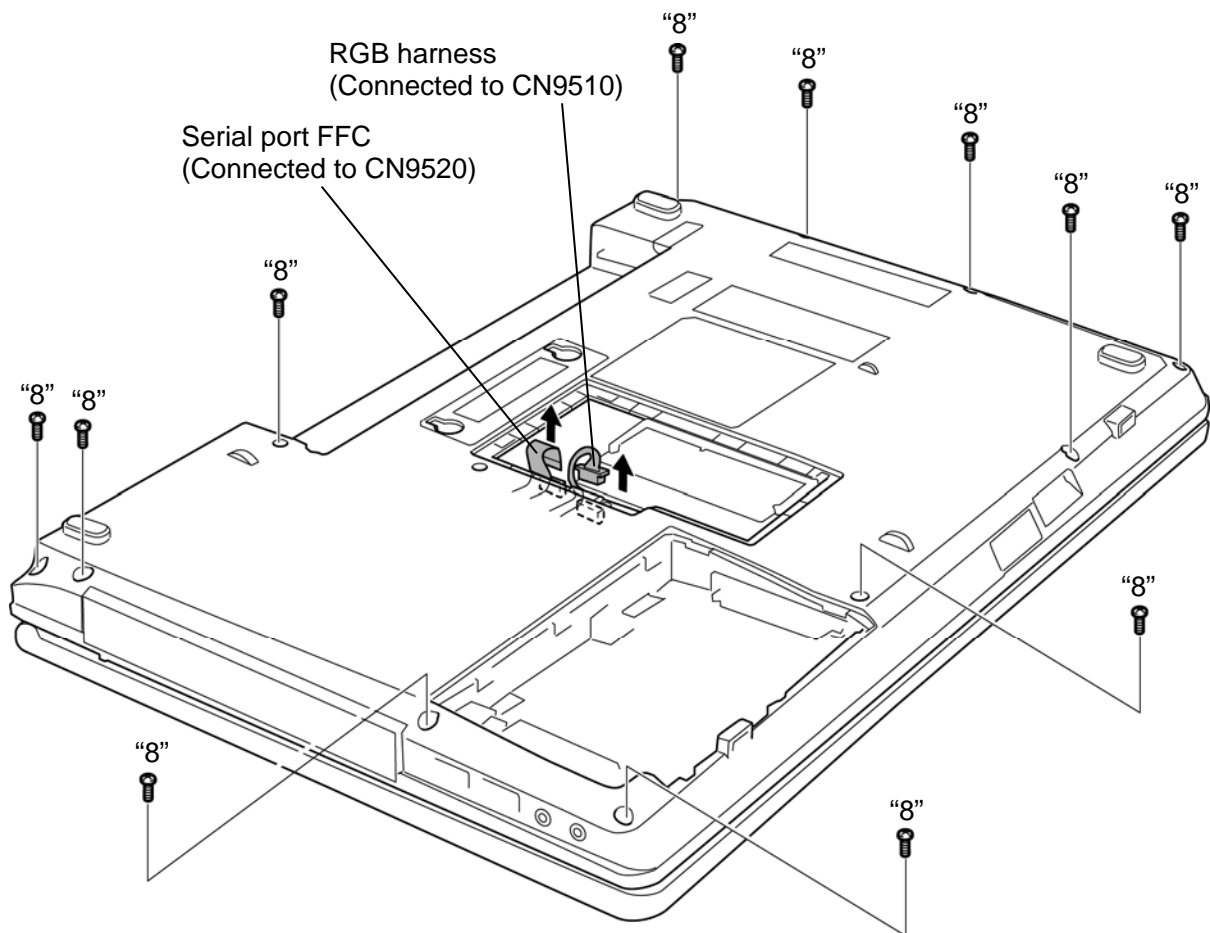

Figure 4-23 Removing the cover assembly and base assembly (1)
To remove the cover assembly and base assembly, follow the steps below and refer to Figure 4-23 to 4-25.
To install the cover assembly and base assembly, follow the steps below and refer to Figure 4-23 to 4-25.
- M2.5×8B FLAT HEAD screw ×11 (“8” in the Figure 4-23)